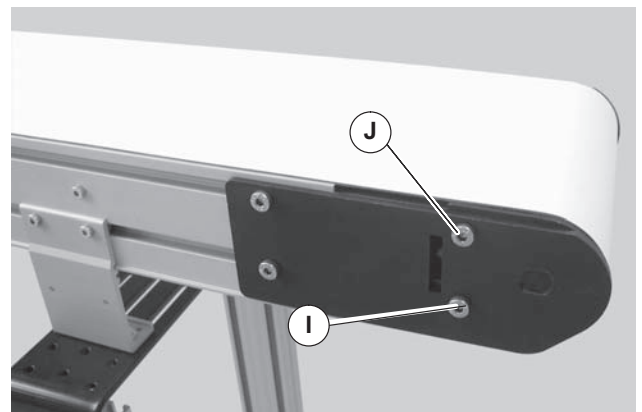
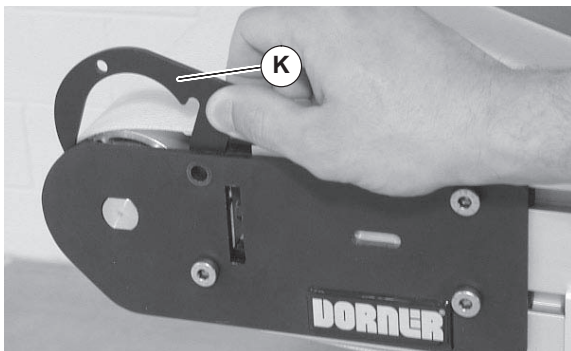

Figure 4
Figure 5
3. Loosen screw (Figure 4, item I) on both sides of conveyor.
- Remove screw (Figure 4, item J) on both sides of conveyor. Remove existing spacer plates (Figure 5, item K) on both sides of conveyor.